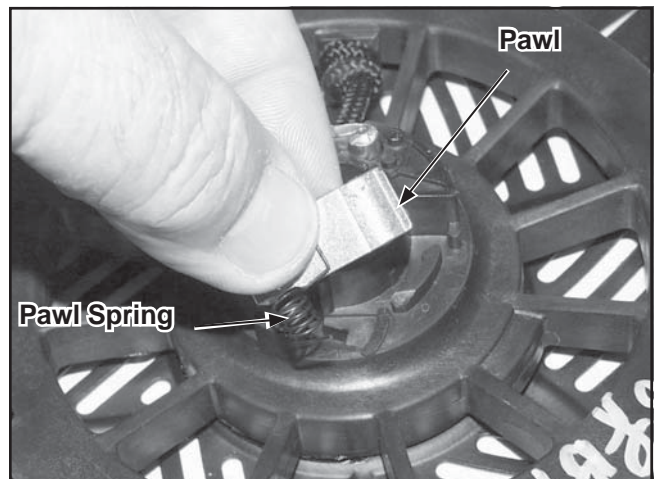

Figure 7-7. Drive Plate and Pawl Details.
5. Install pawl springs and pawls onto pawl studs of pulley. All parts must be dry. See Figure 7-7.